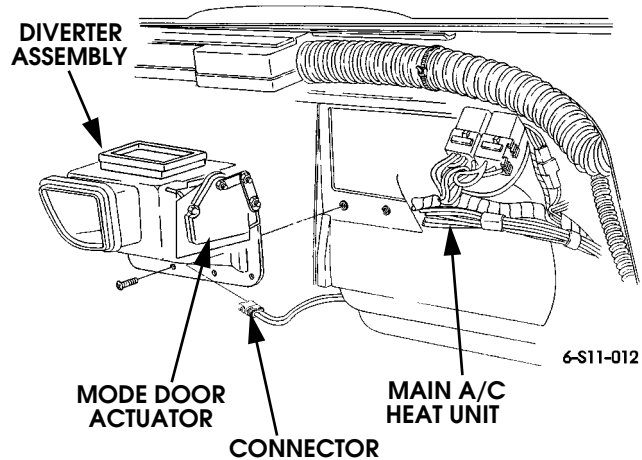

Figure 11-29: Diverter Assembly Mounting
3. Disconnect mode door actuator electrical connection from mode door actuator (Figure 11-29).
1. Secure diverter assembly to main A/C - heat unit with five screws (Figure 11-29).